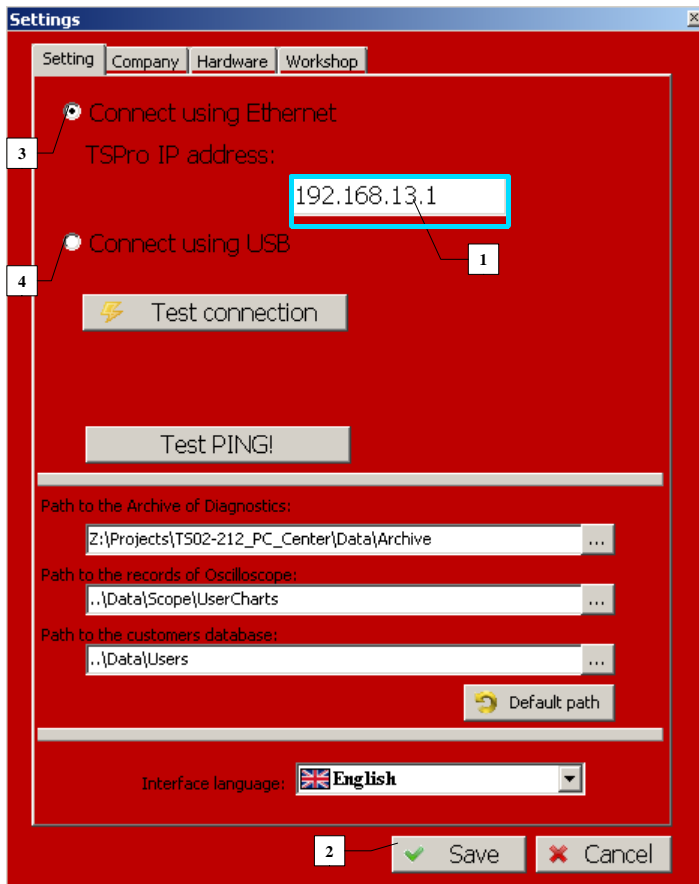

Figure 3.9
IP address of the device with this serial number; click Yes. Then fill in the address in Settings tab (Figure 3.9 - 1) and click Save (2).
It is easier to use the USB connection because it requires no parameter settings. Connect the device with a USB cable to your computer (Figure 3.1b). In the MainBar click Settings and in the first tab click the Connect using USB option (Figure 3.9 - 4). Then click the Test Connection button (2). If the connection works a sign Connection OK (Figure 3.10) appears, otherwise you will see a Connection Error (Figure 3.11) sign; you should check the physical connection.
The Troodon interface may serve as a connection point of a WiFi network (Access Point, *Figure 3.12*). To connect to it's WiFi network you have to have your computer equipped with a wireless network adapter. Select a network Diagnostika from your PC and connect to it. Then run the PC Center program, click the Settings icon and select the Connect using Ethernet option (*Figure 3.9 - 3*) and follow steps from Connect using Ethernet paragraph, the IP addresses are the same.